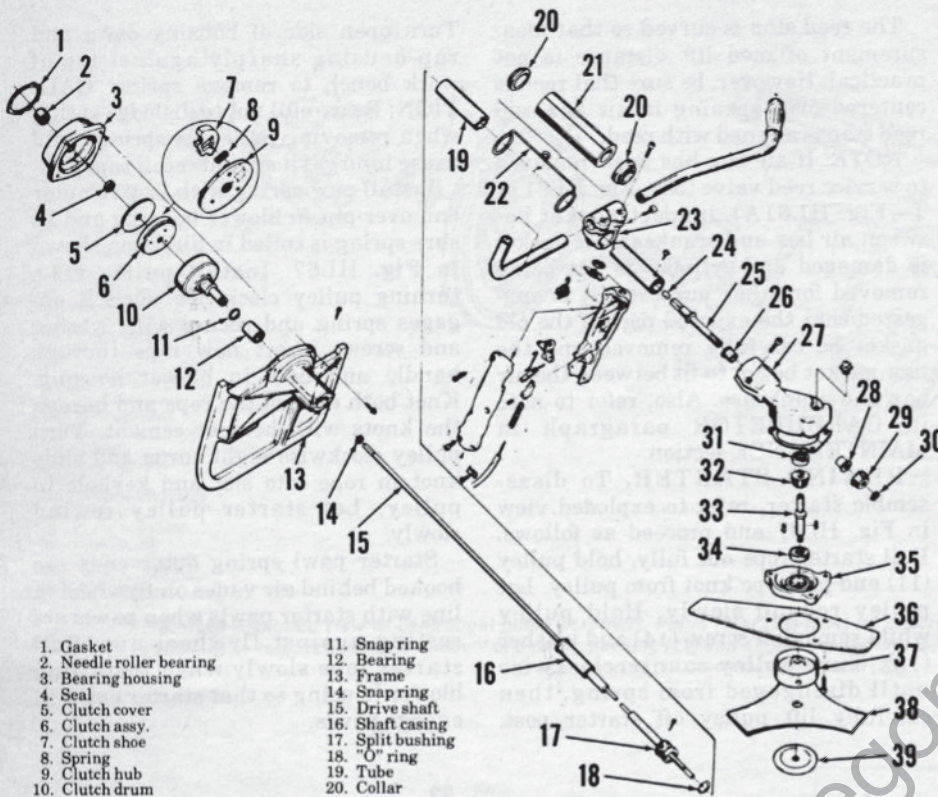

Fig. HL72—Exploded view of late model brushcutter assembly used on XL series.
On later models, unscrew capscrews securing frame (13—Fig. HL72) to bearing housing (3) and separate brushcutting unit from engine. Remove snap ring (11) and clutch drum (10). Rotate clutch hub in counterclockwise direction to remove clutch assembly. Bearing housing can now be removed from engine as previously outlined. To remove nut (39) from blade shaft, insert a ¼ inch steel rod in hole in spindle head (27) to prevent shaft from turning.